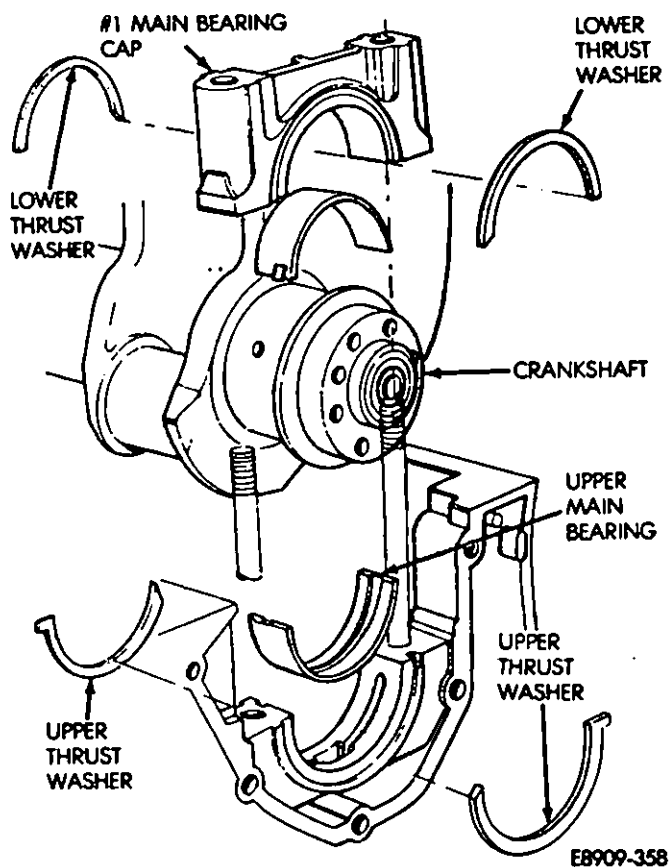

Fig. 21—Main Bearing Cap/Bearing/Thrust Washers
(6) Install new thrust bearing halves with the oil grooves facing out towards the thrust flanges of the crankshaft. The upper thrust bearing halves have a small tab on one side (Fig. 21). The tab rests in a notch in the cylinder block.
(7) Coat the back of the upper thrust bearing with Jeep/Eagle Super Oil Conditioner and install them to the grooves in the block. The oil groove in the bearings **MUST** face out.
(8) Apply a coating of clean engine oil to all of the upper main bearings (Fig. 21).
(9) Set crankshaft in place (Fig. 21).
(10) Lubricate the main bearing and connecting rod journals with clean engine oil.
(11) Install a set of lower thrust bearings to the rear No. 1 main bearing cap with the oil grooves facing out (Fig. 21).